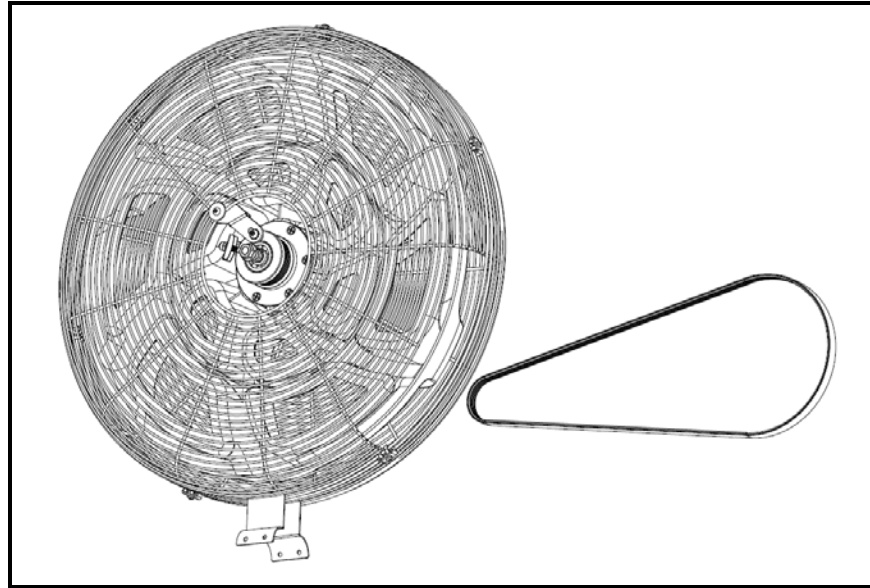

Fig. 16
18. Pull the fan and cage assembly off the machines base (Fig. 16) and maneuver the belt off the axle pulley and out off the fan cage.